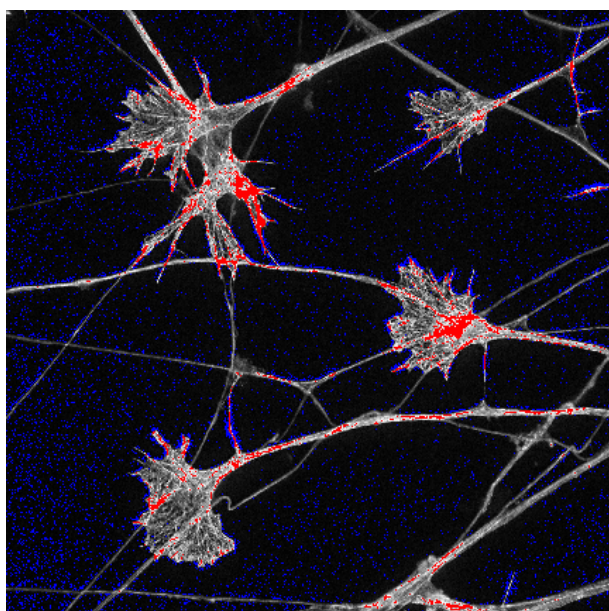

Fig. 37 Image with Range Indicator
- The scanned image appears in a false-color presentation (Fig. 37). If the image is too bright, it appears red on the screen. Red = saturation (maximum). If the image is not bright enough, it appears blue on the screen. Blue = zero (minimum).